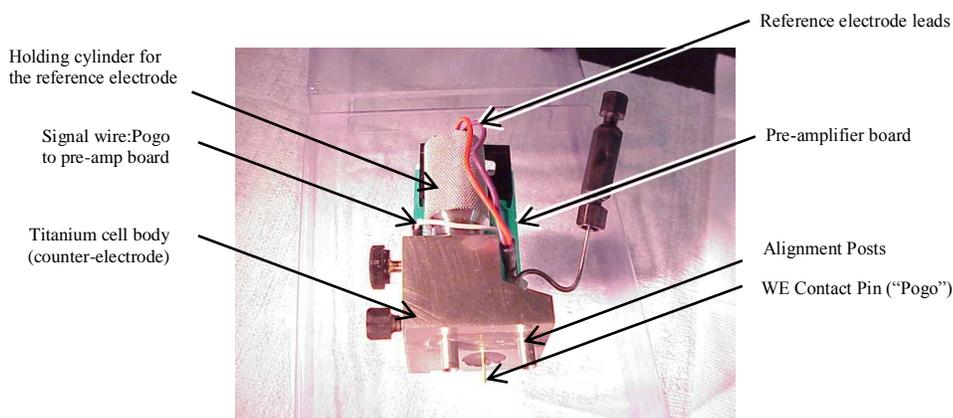
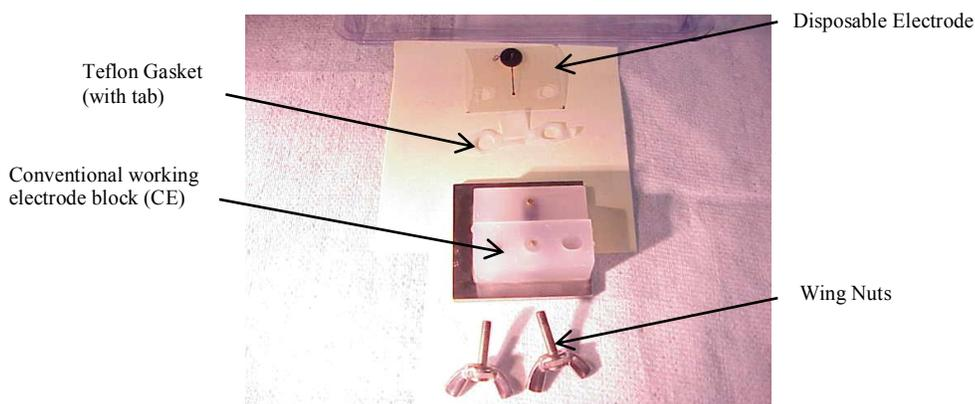
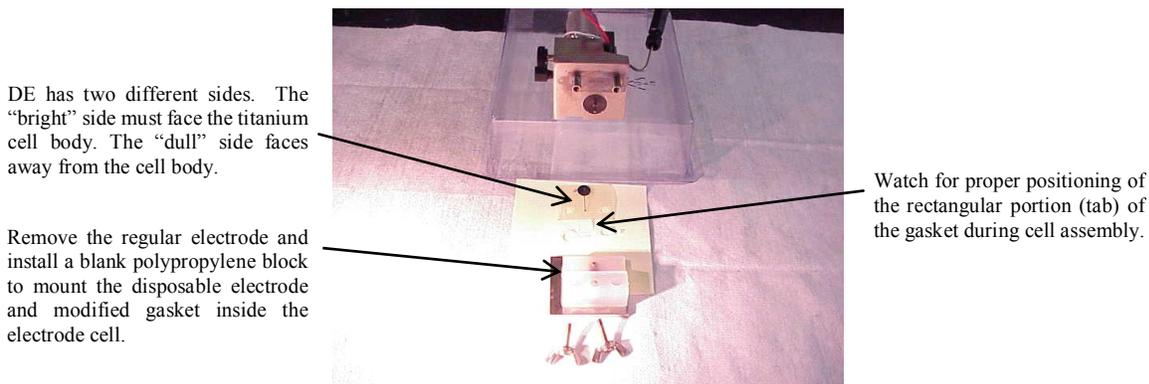

Figure B-1 - The Conventional Side
Figure B-2 – Comparison
Figure B-3 - Overview of Parts Used During Disposable Electrode Installation
Figure B-1 shows an ED40 cell body as it is normally configured for use with conventional electrodes. Figure B-2 shows a conventional silver electrode and two wing nut screws that are the standard components of each ED40 cell. Additionally, Figure B-2 also shows the disposable electrode (DE) and the modified gasket (MG). You will notice the small circle on the DE, which is the working electrode, the larger circle, which is a contact pad and the straight, narrow lead which connects them. The reverse side (the “dull” side) of the polyester sheet does not carry any metal.
If you are installing the disposable electrode into an existing electrochemical cell that previously held a conventional working electrode, please read sections B.2 and B.3 before proceeding. Figures B-3 through B-9 show the proper assembly and show all parts from Figures B-1 and B-2 in a single picture.